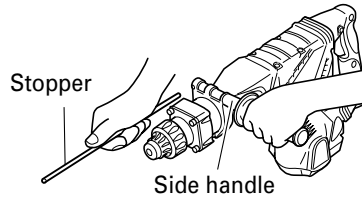

Fig. 10
- (d) Switch the selector lever to "hammering" according to the procedures mentioned in the above item (1) and secure the position of the tool.
5. Install the stopper (Fig. 10)